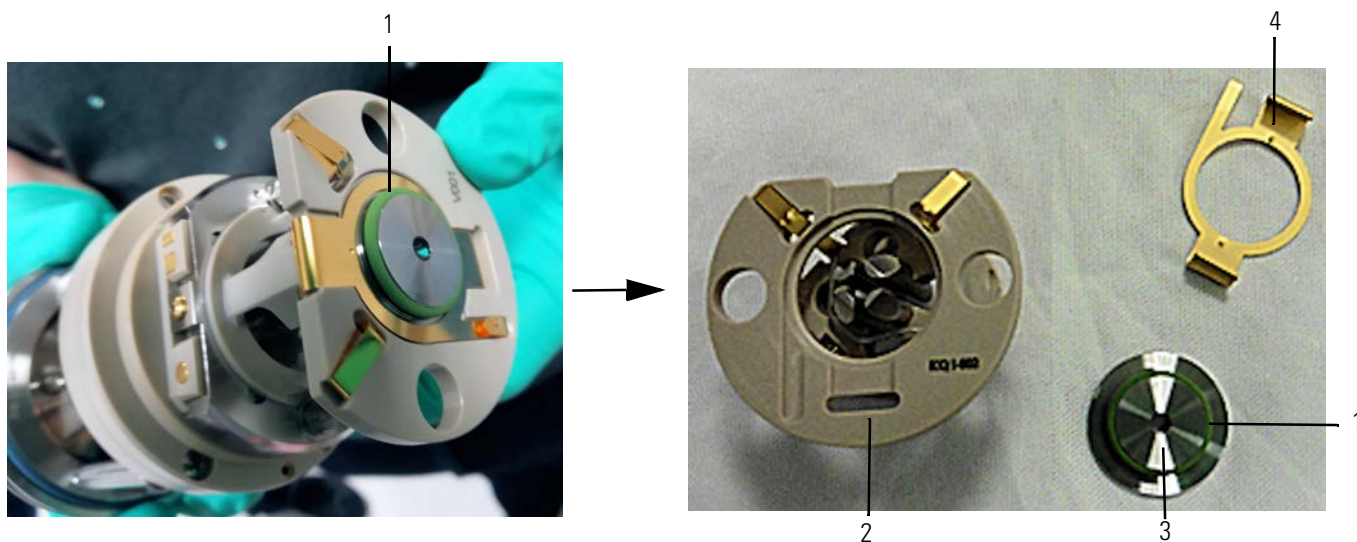

Figure 8-19. Disassembling the injection filter
3. Remove the O-ring (see Figure 8-19).